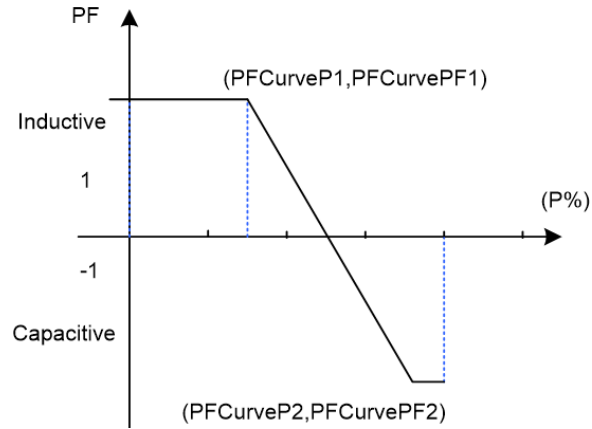

Figure 6-6 PF(P) Curve Mode
PF(P) Curve: PF curve mode. The power factor changes according to the power change (see Figure 6-6).